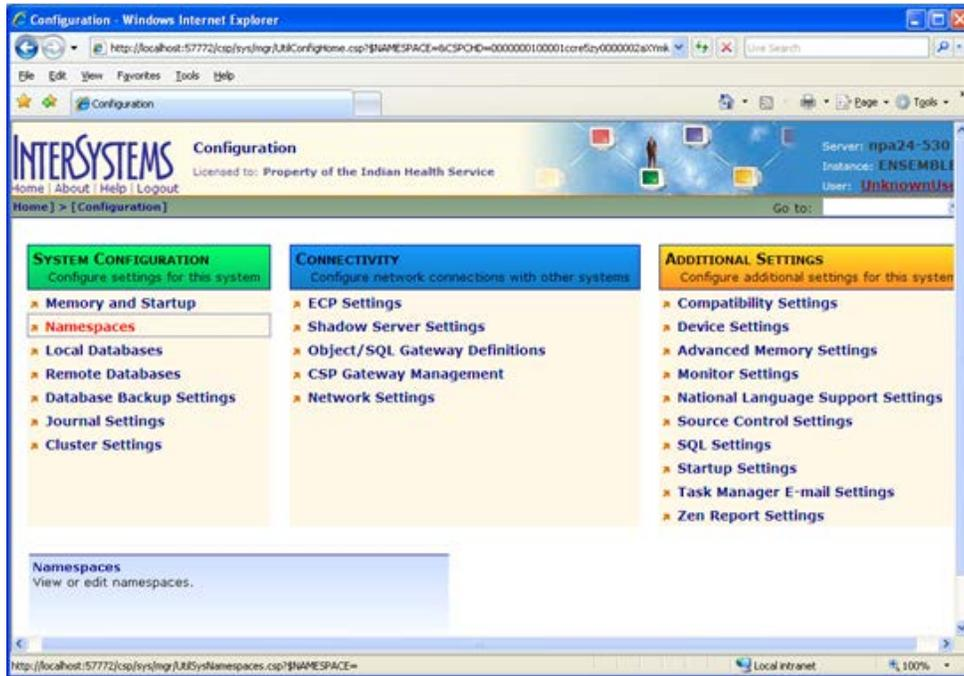

Figure 4-3: Configuration page
- In the **System Administration** area, click **Configuration** to open the **Configuration** page, as shown in Figure 4-3.